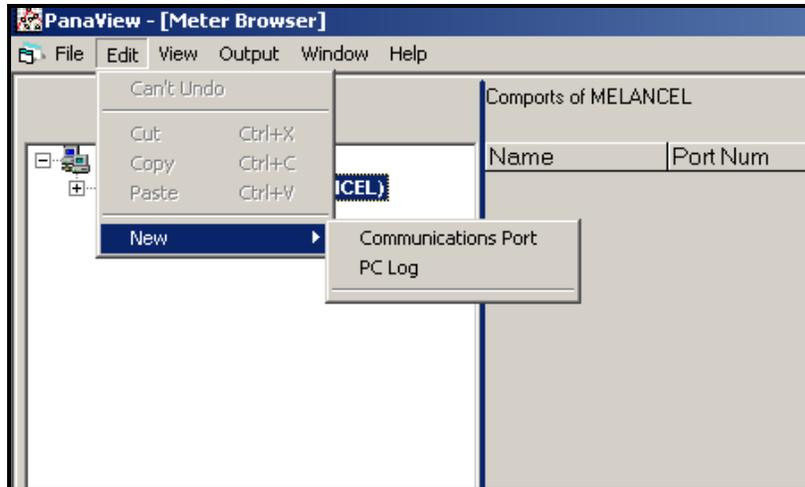

Figure 18: The Edit Menu
3. Click on the “*New*” menu option to select it, and a submenu opens with two choices on it (see Figure 18).